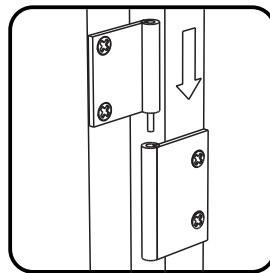

Figure 5
Attach Doors (I) and (J) to unit by sliding door hinges into side panel hinges. (See Figure 5)